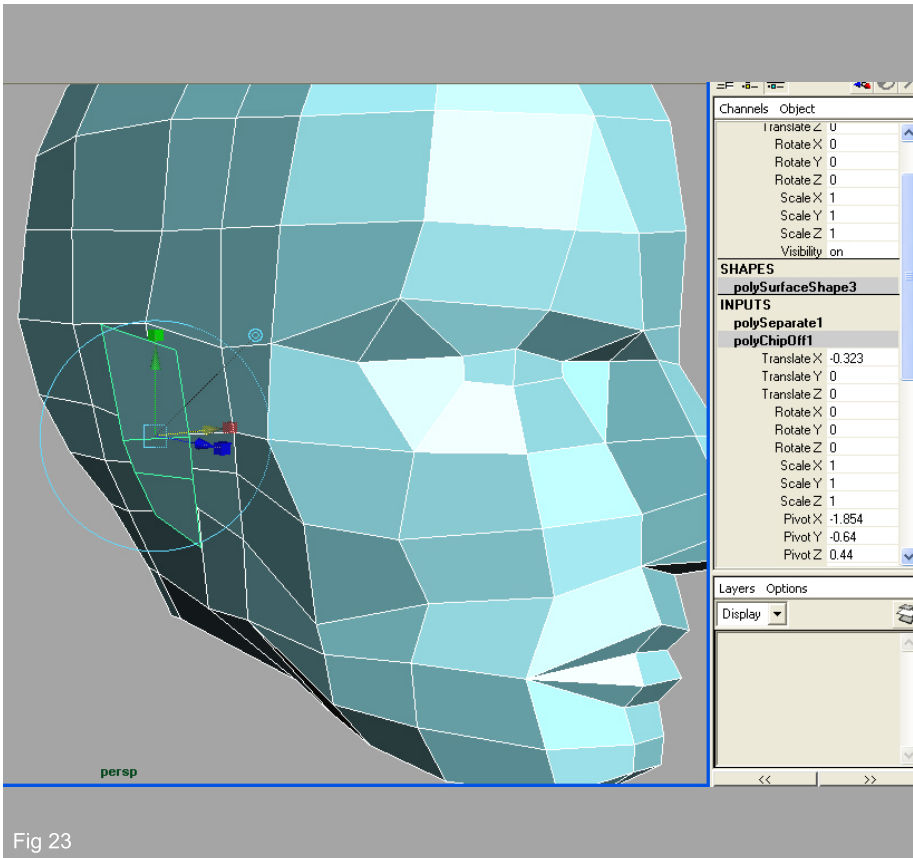

Fig 23
23. Select the 3 faces of the ear and duplicate the faces (Edit Polygon < Duplicate Face < Option Box). In the duplicate face options box make sure "Separate Duplicated Faces" is turned OFF (otherwise the duplicated faces will be a brand new object). Once duplicated, move the faces off to the side of the head slightly. (Fig 23)